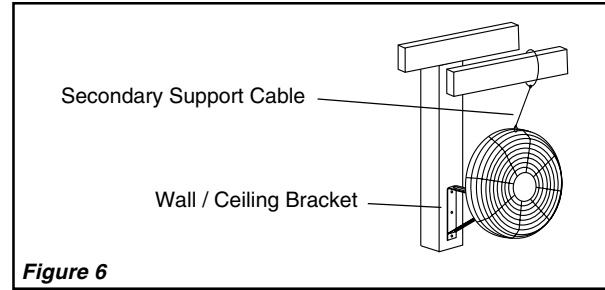

Figure 6
3. Wrap the other end of the Cable around a secure building joist, truss, or other support near the Fan. (Figure 6) Take up all excess slack in the Cable.